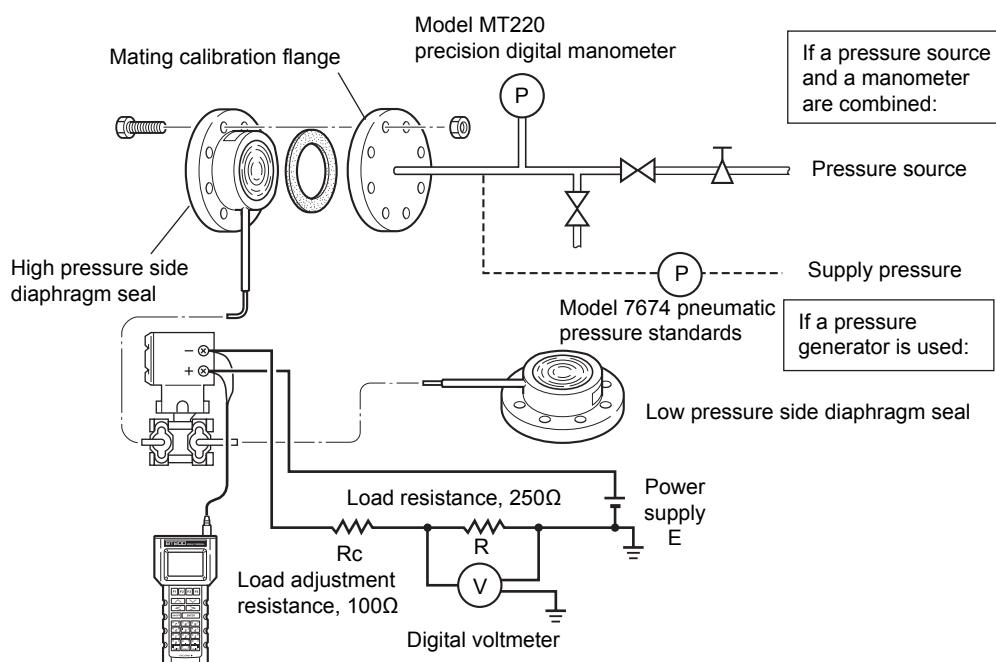

Figure 7.1 Instrument Connections (4 to 20mA output)
- 1) Connect the transmitter and apparatus as shown in Figure 7.1 and warm it up for at least five minutes.
- Connect the instruments as shown in figure 7.1 and warm up the instruments for at least five minutes.